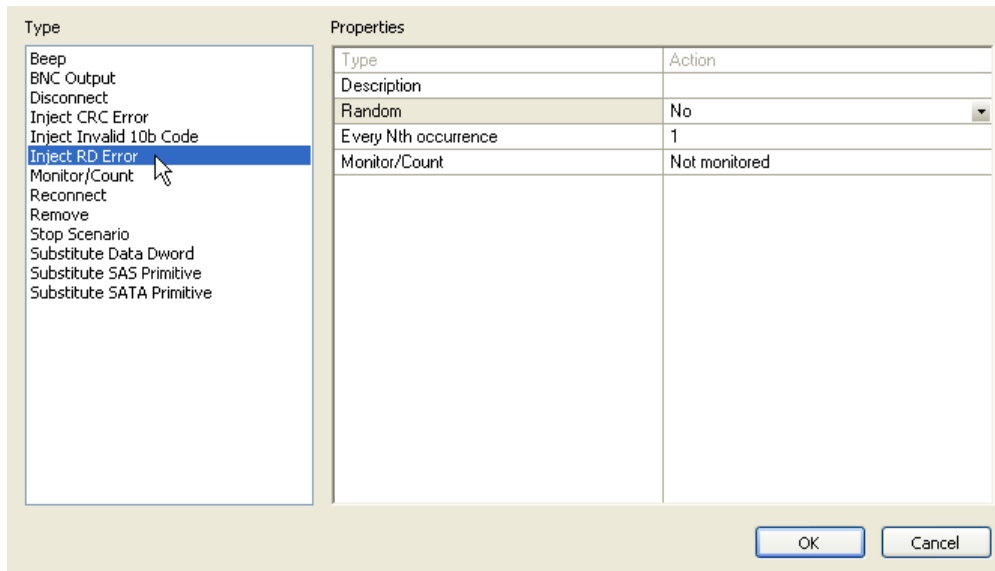

Figure 5.27 Example 5: Action Drop-Down List (For Second Action)
Step 4 The Action Properties dialog box appears. Choose **Inject RD Error** as the second action (Figure 5.27).